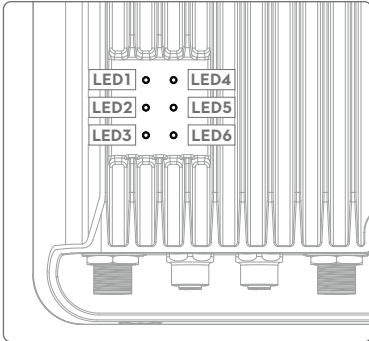

Figure 7. LED explanations
5. After powering on, check the LED indicators with reference to Figure 7.